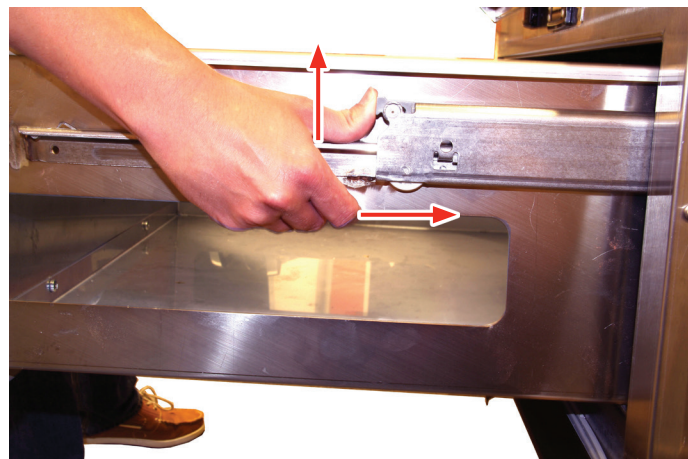

Fig. 23
3. Reopen the drawer and pull outward until it stops. Push the drawer lock upward while simultaneously towards the back of drawer to lock the drawer in place (Fig. 23).